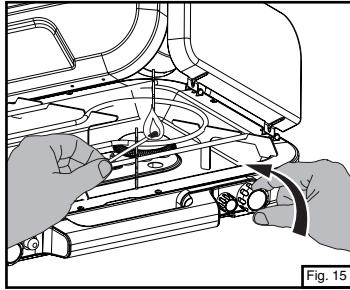

Fig. 15
- Hold litched match near burner and open burner valve. (Fig. 15)